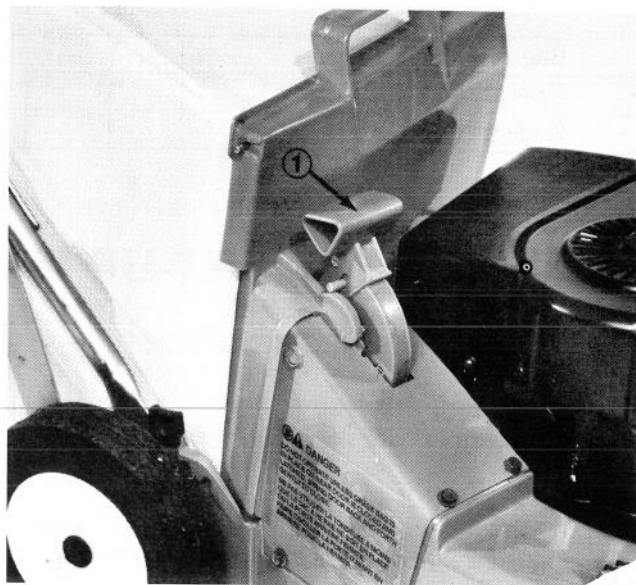

Figure 6
4. Rotate mulching door handle upward to open discharge chute and lock in place (Fig. 6).